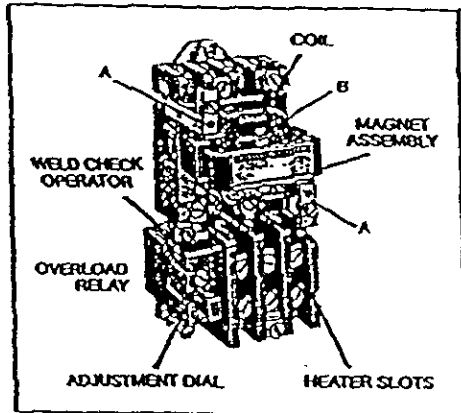

Figure 1. Typical 300-Line magnetic starter.
2. Press against coil while putting up slightly on coil retainers (A-Figure 1) and move retainers away from coil.
4. Withdraw spring clip (B-Figure 1) and remove armature from movable arm.
Note: For starters with one or more normally closed contacts, perform steps 1 and 2 shown under *Coil Replacement*. Withdraw spring clip (B-Figure 1) and remove armature, coil, and magnet from device. Remove return spring from center of movable arm. Remove molded cover and stationary contacts before lifting movable arm from device.